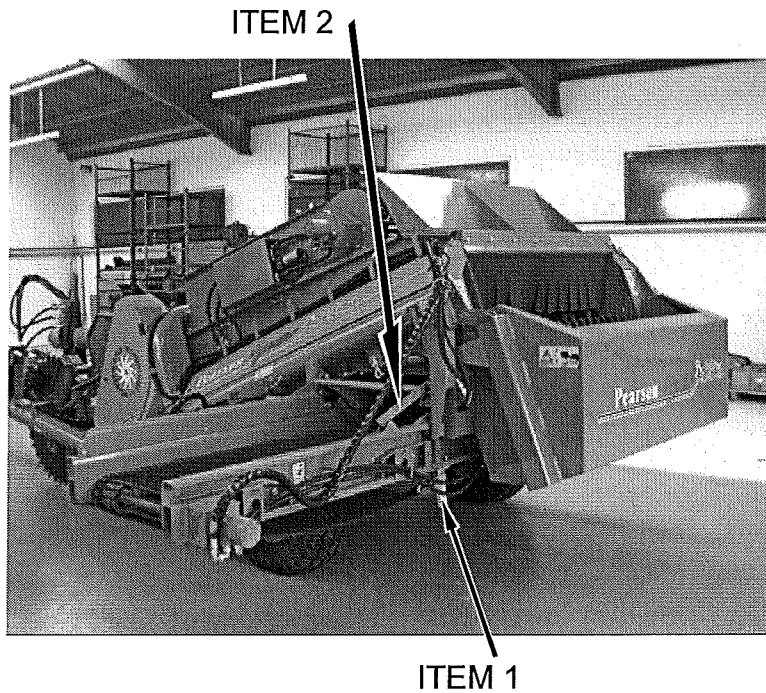

Fig 7.13
Traverse cross conveyor until hook drops over hook point on left hand section (fig 7.13 item 2).
Release the over centre latches (fig 7.13 item 1), making sure they are unhooked from the eyelets.